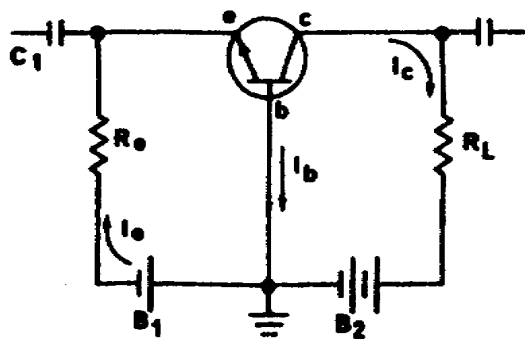

Figure 122. Common base amplifier.
6. **Transistor Amplifiers.** Let's put a signal voltage into the circuit of figure 122 and trace the electron flow. A coupling capacitor ( $C_i$ ) is used to couple the signal into the emitter-base circuit.  $R_g$  provides the right amount of forward bias. When the signal voltage rises in a positive direction, the emitter will be made less negative with respect to the base. This difference will result in a reduction of the forward bias on the emitter-base circuit and, therefore, a reduction in current flow through the emitter. Since the emitter current is reduced, the collector current will likewise be reduced at the same proportion. As the signal voltage starts increasing in a negative direction, the emitter will now become more negative with respect to the base, resulting in increased forward bias. Increased forward bias